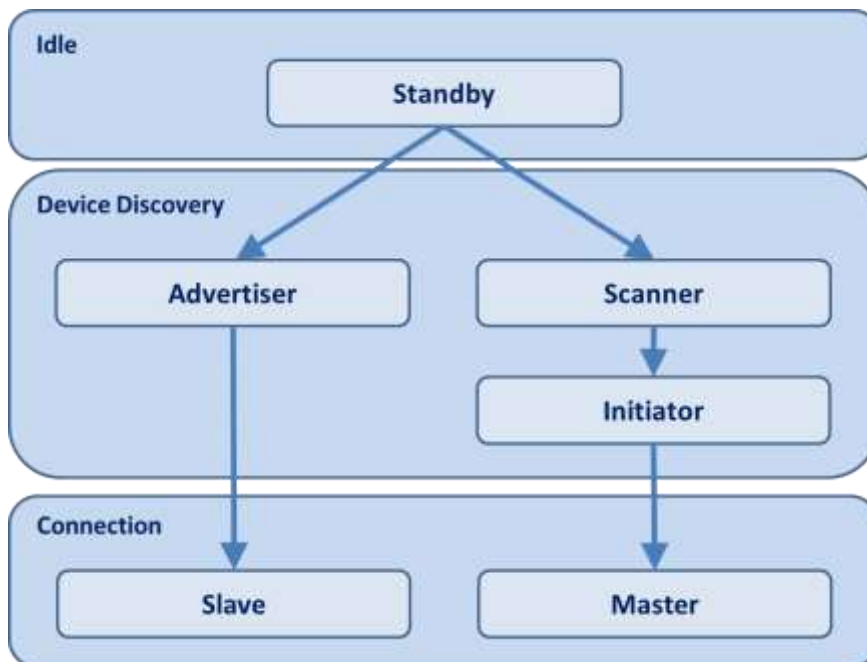

Figure 4: Link Layer States
The LL principally controls the Radio Frequency (RF) state of the device and manages the link state of the radio which is how the device connects to other devices. A Bluetooth low energy device can be a **master**, a slave, or both depending on the use case and the corresponding requirements. A master can connect to multiple slaves and a slave can be connected to multiple masters. Typically, devices such as smartphones or tablets tend to act as a master, while smaller, simpler, more memory-constrained devices such as standalone sensors generally adopt the slave role. A device can only be in one of the following five states: **standby, advertising, scanning, initiating, or connected** as shown in Figure 4: